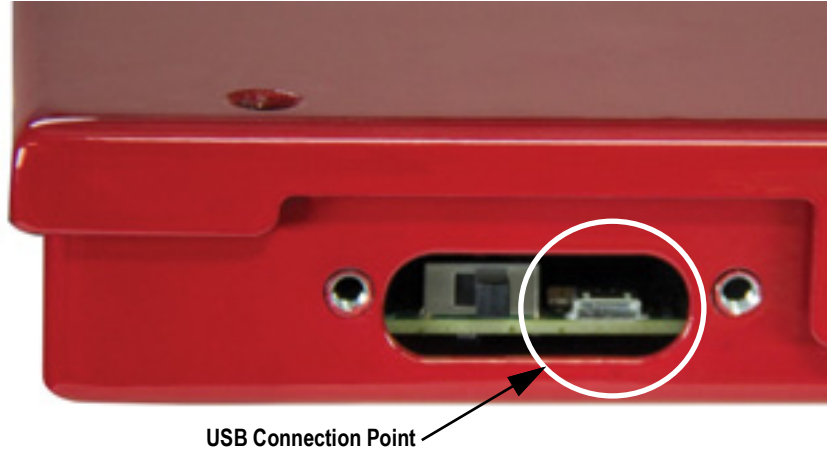

Figure 4-42. Micro B USB iQube² Junction Box Connection
2. Use a standard type A to micro type B USB cable (PN 163898) to connect to the iQube² junction box and PC as shown below in Figure 4-42.